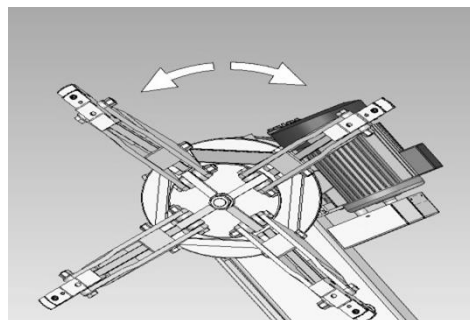

Fig1 4-jaw hydraulic chuck
1. 4-jaw hydraulic chuck (Fig 1):